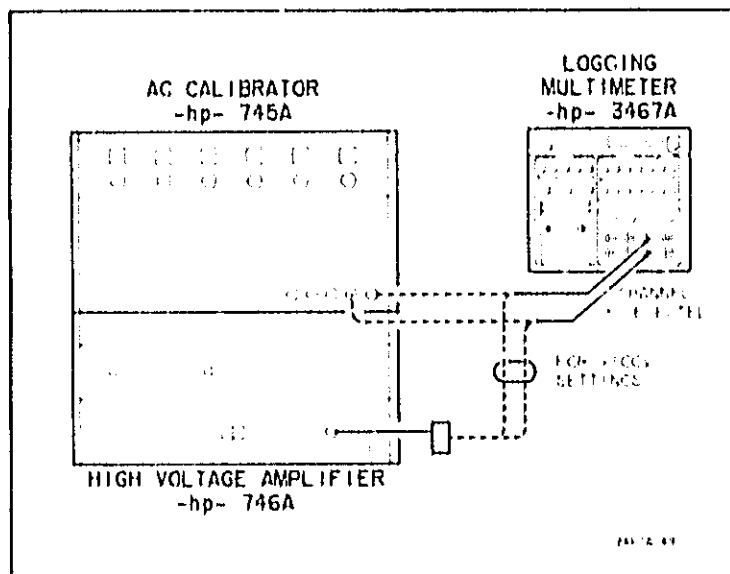

Figure 5-3. AC Voltmeter Accuracy Test.
- a. Set the Logging Multimeter function to ACV, 200 mV range. Connect the AC calibrator to Channel 3 as shown in Figure 5-3 and select Channel 3.
c. To check the 190 V reading on the 200 V range, and the 250 V range readings, connect the high voltage amplifier to the channel to be tested as shown by the dotted line in Figure 5-3.